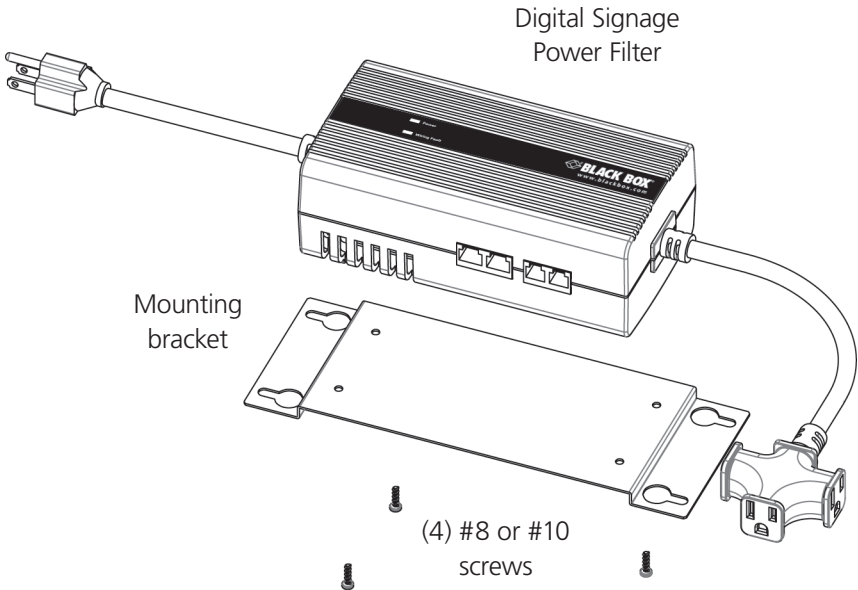

Figure 3-1. Attaching the mounting brackets to the filter.
3. Attach the mounting bracket to the filter using the four screws provided (see Figure 3-1).